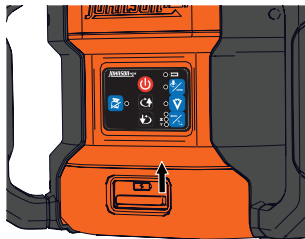

Figure 1
1. Slide open the battery recharge port on the front of the rotary laser. (Figure 1)